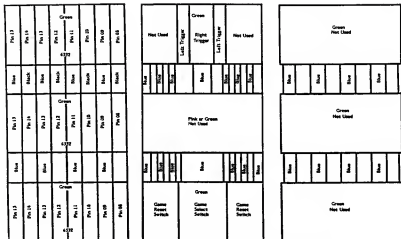

Figure 2-3. Diagnostic Matrix Screen (Shorting Plugs IN)
- The shorting plugs are then inserted and the pattern should look like Figure 2-3.